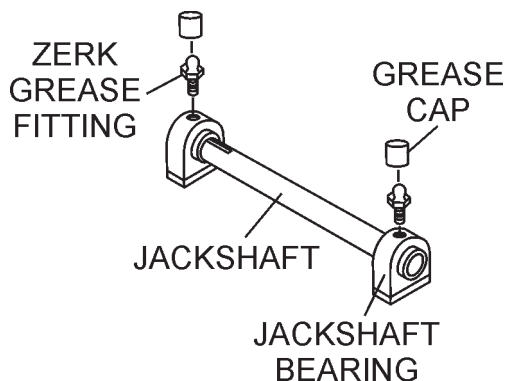

Figure 30. Zerk Fittings (Lubrication)
There are two (2) grease points (Figure 30) for the Trak-14 **gasoline** model saw. Use only Premium Lithium 12 based Grease, conforming to NLG1 Grade #2 consistency. Grease **daily**.